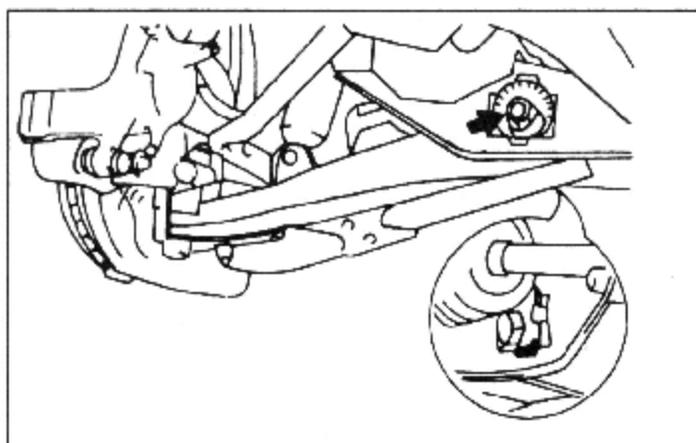

Figure 10-5-6 Adjustment of Camber
C. Adjust camber. If camber value angle is not within the specified range, turn the adjusting cam to adjust as shown in Figure 10-5-6. **Note:** Each scale on the cam corresponds 18' camber change. When the cam is turned to a position 4.5 scale beyond the median line, the adjusting cam can not be turned further.